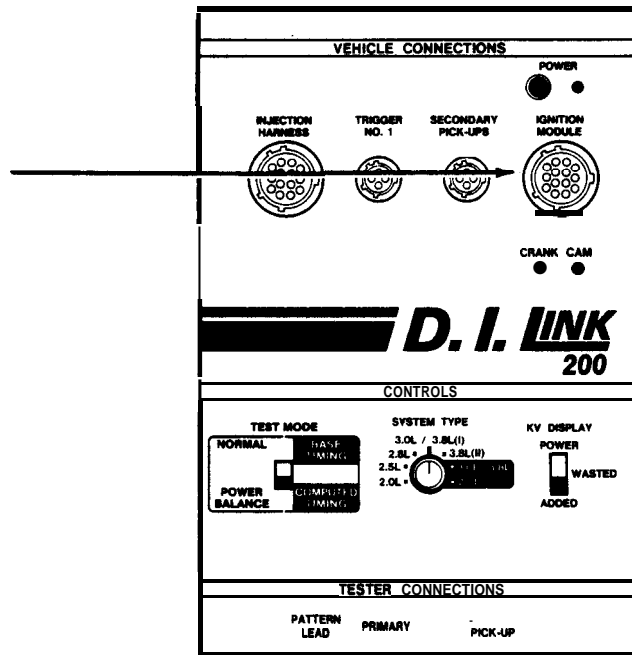

Figure 1
7. Connect the 14-pin connector of either the D. I.S. Module Cable Assembly #7009-1867 (for GM Cable Kit) or the Universal Cable #6004-0590-01 (for Ford DIS Cable Kit) , depending on which is available (see Figure 1) to the IGNITION MODULE connector on the DIL-200. Connect the pink twin flex RED and BLACK booted clips to the ALT VOLT/OHMS lugs on the IS-100A with regards to polarity. This is done just to supply power to the DIL-200.
8. Set the DIL-200's KV DISPLAY switch to "ADDED" and the SYSTEM TYPE switch to 3. 0L/3.8L (1).